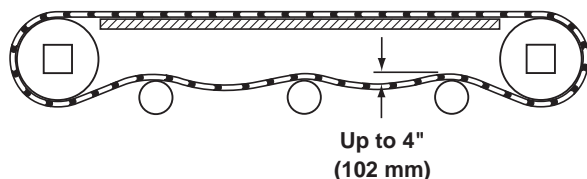

Figure 41
8. Check belt sag by measuring from the top of the return (Figure 41).